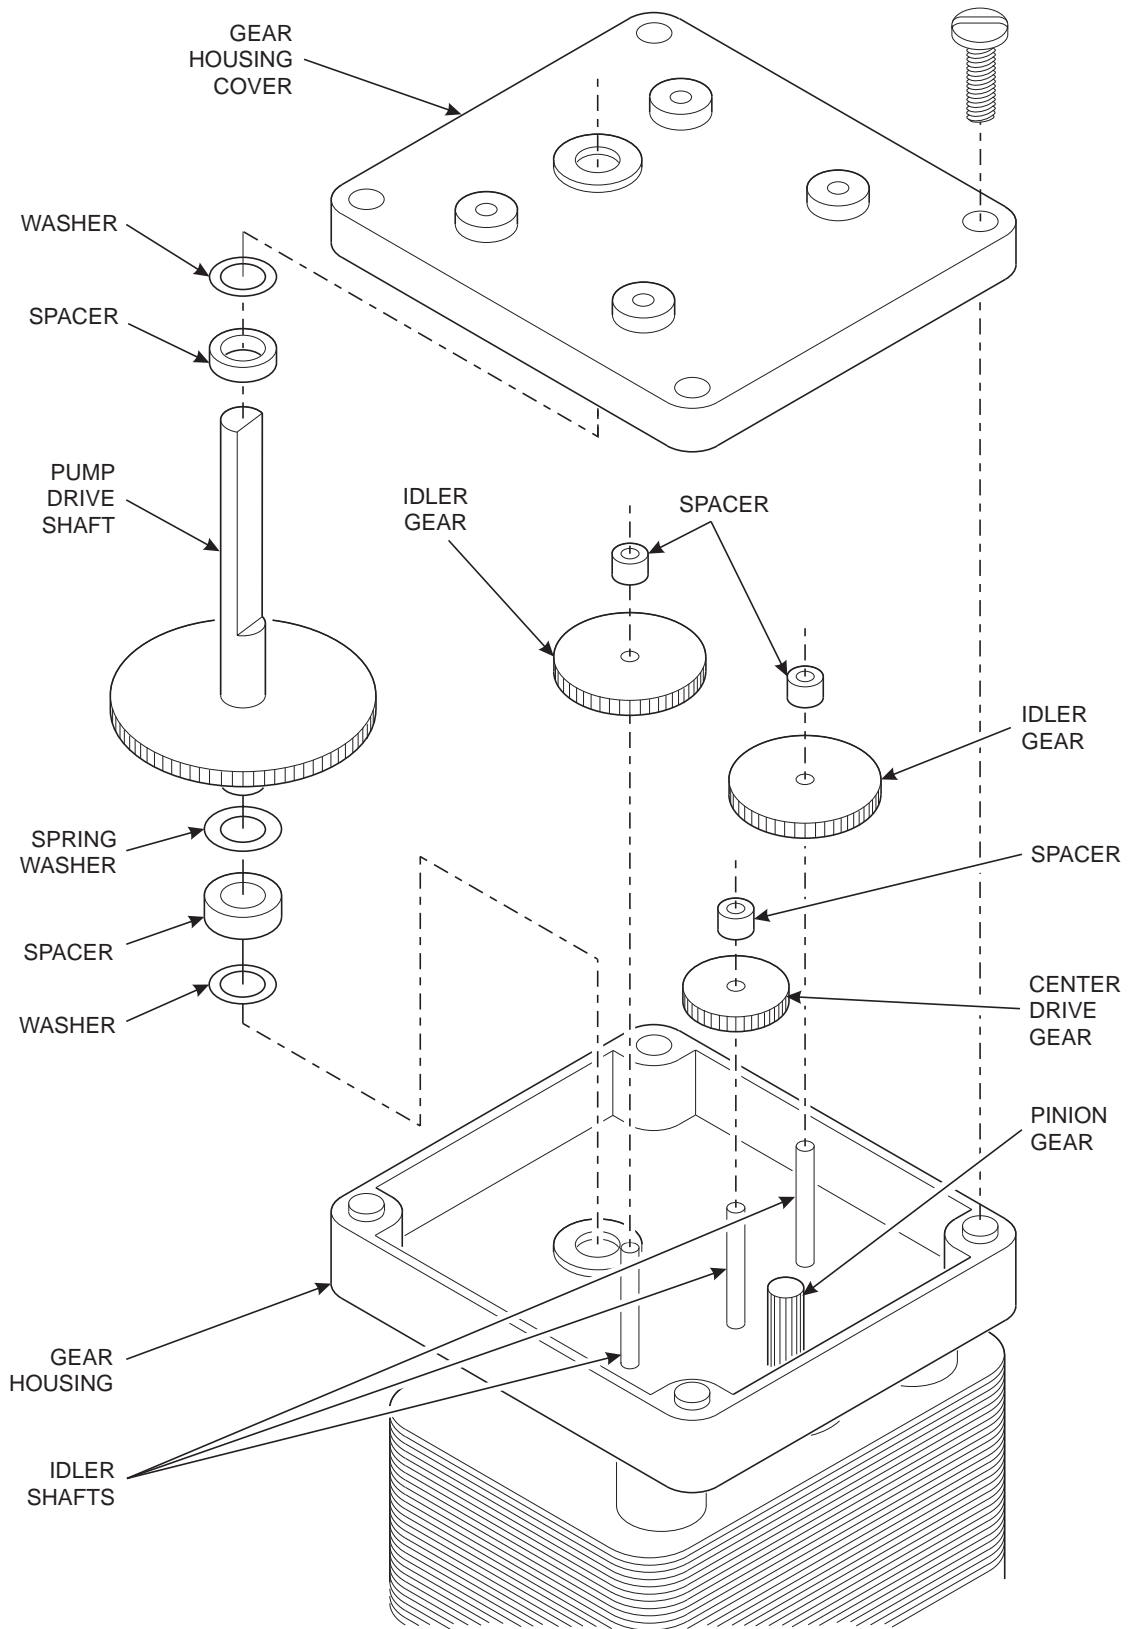

Figure 2
- b. Carefully remove the gear housing cover while holding onto the pump drive shaft. While you are removing the cover, make sure you note the placement of all the parts (spacers, etc.) on the pump drive shaft (see figure 2).
- c. Work the tubing into the pump body while turning the roller assembly counterclockwise, as shown. **DO NOT FORCE** the tubing. Make sure the top of the tubing is even with the tops of the rollers. If it is lower or higher, it can get pinched, which can lead to premature failure or leaks. Before installing the pump cover, turn the roller assembly as shown in figure 2, view A.